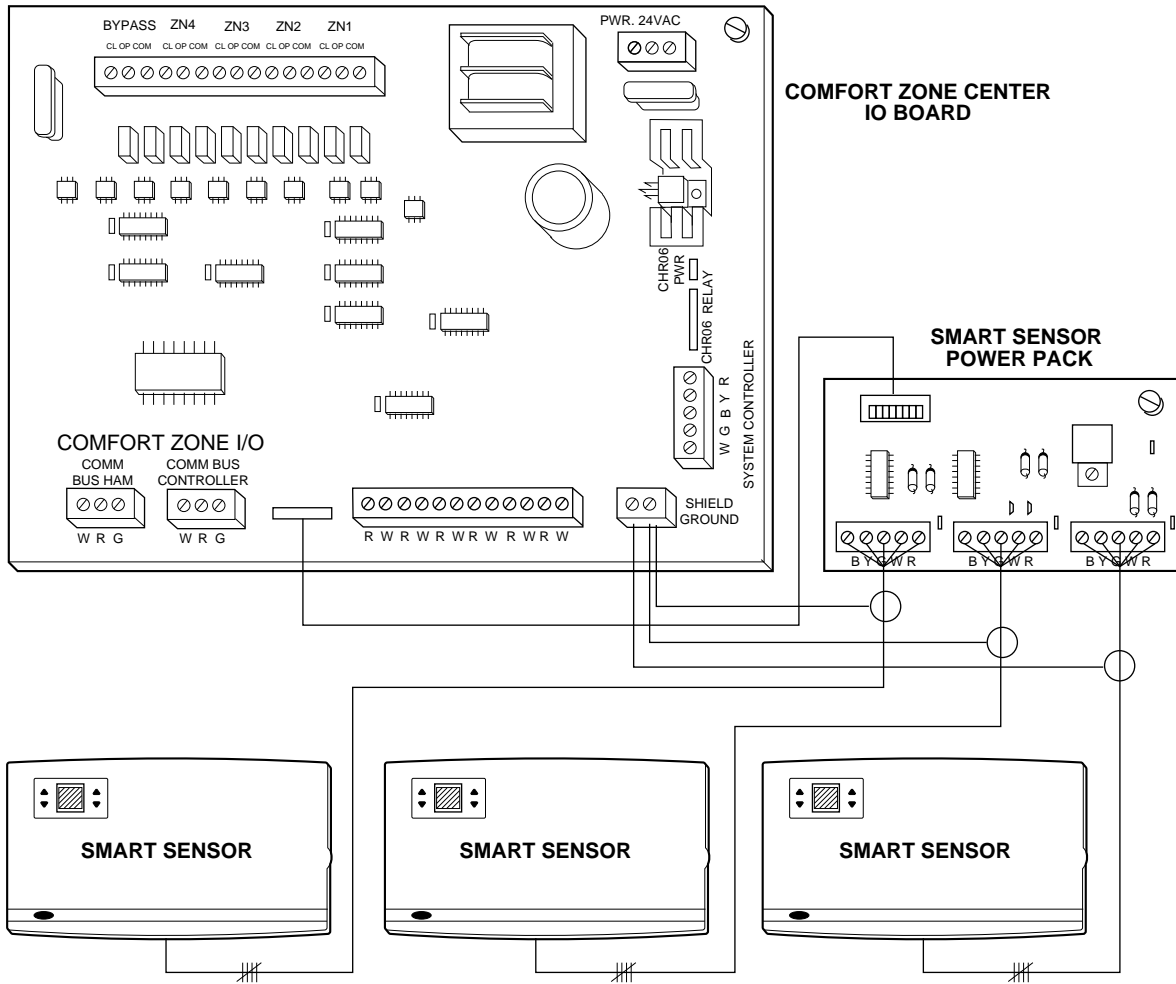

Fig. 6—Wiring Smart Sensor To Comfort Zone
5. Install Smart Sensor Power Pack into the Comfort Zone Center. Attach wires according to Fig. 6.